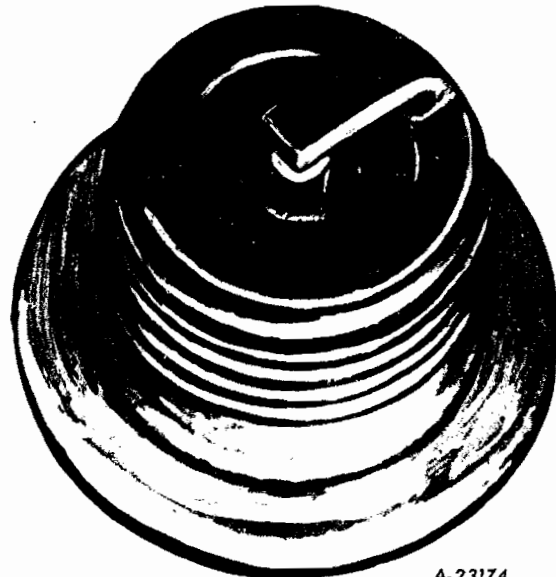

Fig. 5
(2) GAS FOULING (Fig. 5) is usually identified by a black, dry fluffy deposit which results from: